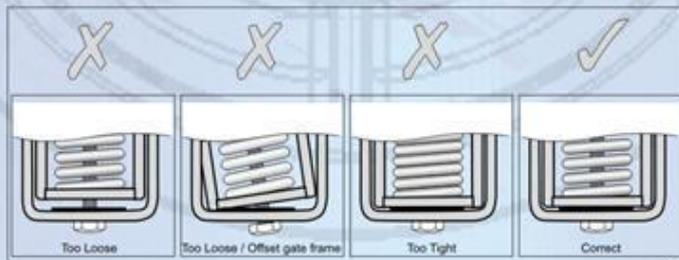

fig 3
- Tension until **Mounting Bracket** and **Wheel Bracket** seat on the **Rubber Washer** (refer fig 3).